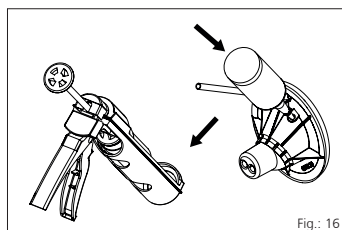

Fig.: 16
- However, the resin cartridge can be taken out of the cartridge gun immediately after the resin has been injected. The cartridge must then be resealed with the bottom cover of the cartridge, to prevent any resin components from dripping out (see fig.: 16).
Release cartridge gun and remove. Leave cartridge with mixer jet in the filling opening and close again with the the base cover of the resin cartridge (see fig.: 16).